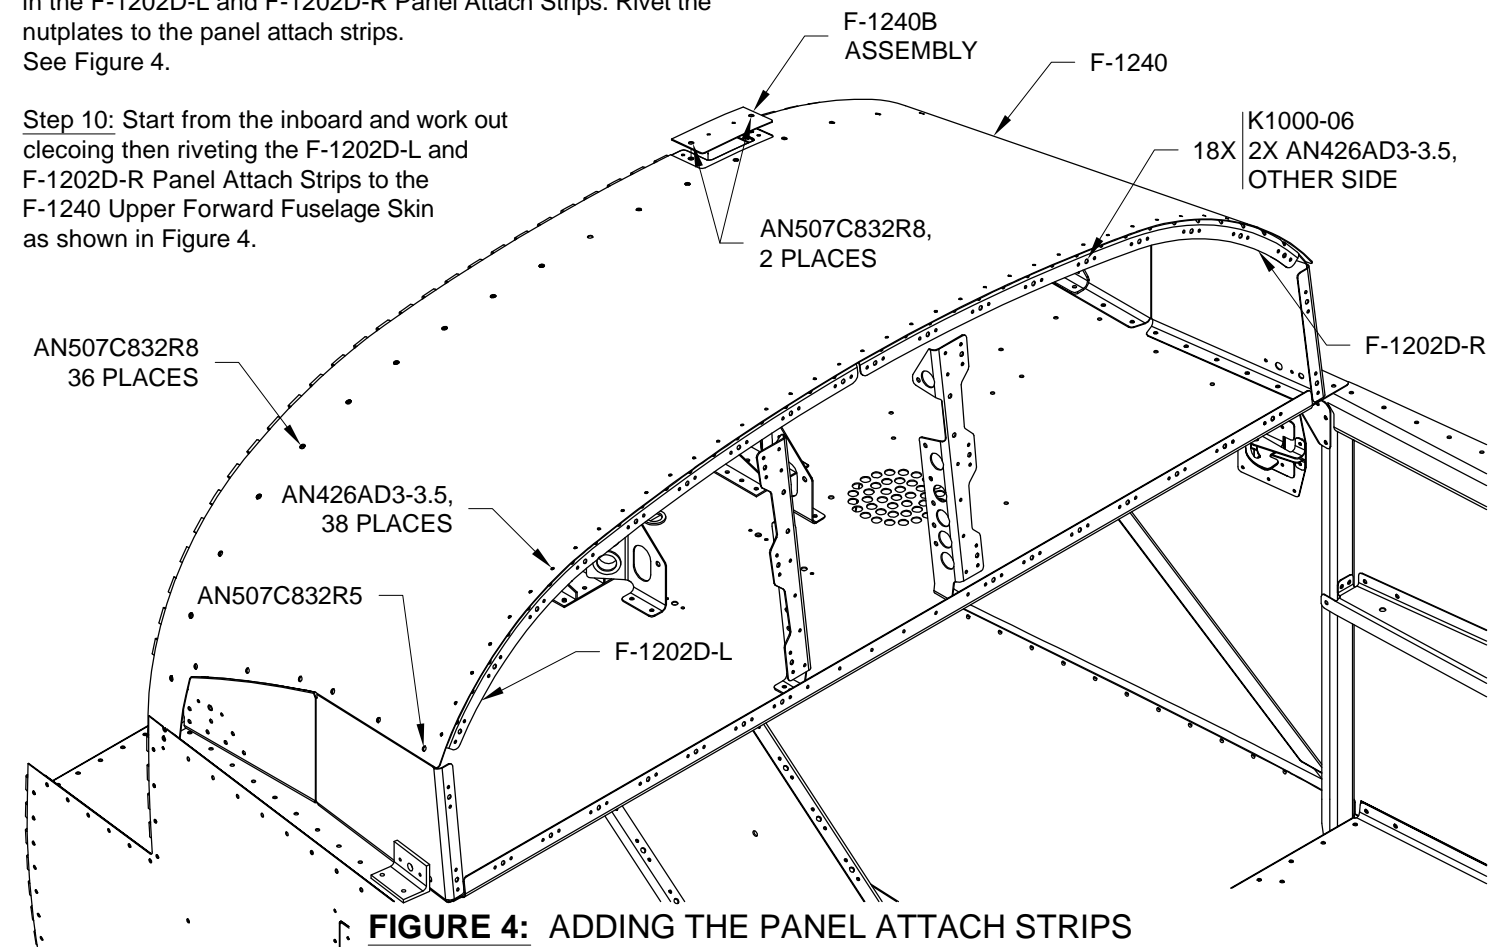

FIGURE 4: ADDING THE PANEL ATTACH STRIPS
Step 8: Screw the F-1240 Upper Forward Fuselage Skin to the F-1201A Assembly, F-1270-L and F-1270-R Fuselage Side Skins and F-1202H-L and F-1202H-R Canopy Ribs. Screw the F-1240B Assembly to the upper forward fuselage skin. See Figure 4.
Step 9: Dimple the nutplates called out in Figure 4 and the rivet locations in the F-1202D-L and F-1202D-R Panel Attach Strips. Rivet the nutplates to the panel attach strips. See Figure 4.
Step 10: Start from the inboard and work out clecoing then riveting the F-1202D-L and F-1202D-R Panel Attach Strips to the F-1240 Upper Forward Fuselage Skin as shown in Figure 4.